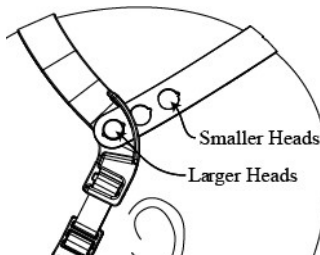

Figure 9 – Adjusting the harness rear strap
- To adjust for a smaller head size, shorten the rear strap by using a hole further along the strap, as shown below in Figure 9.